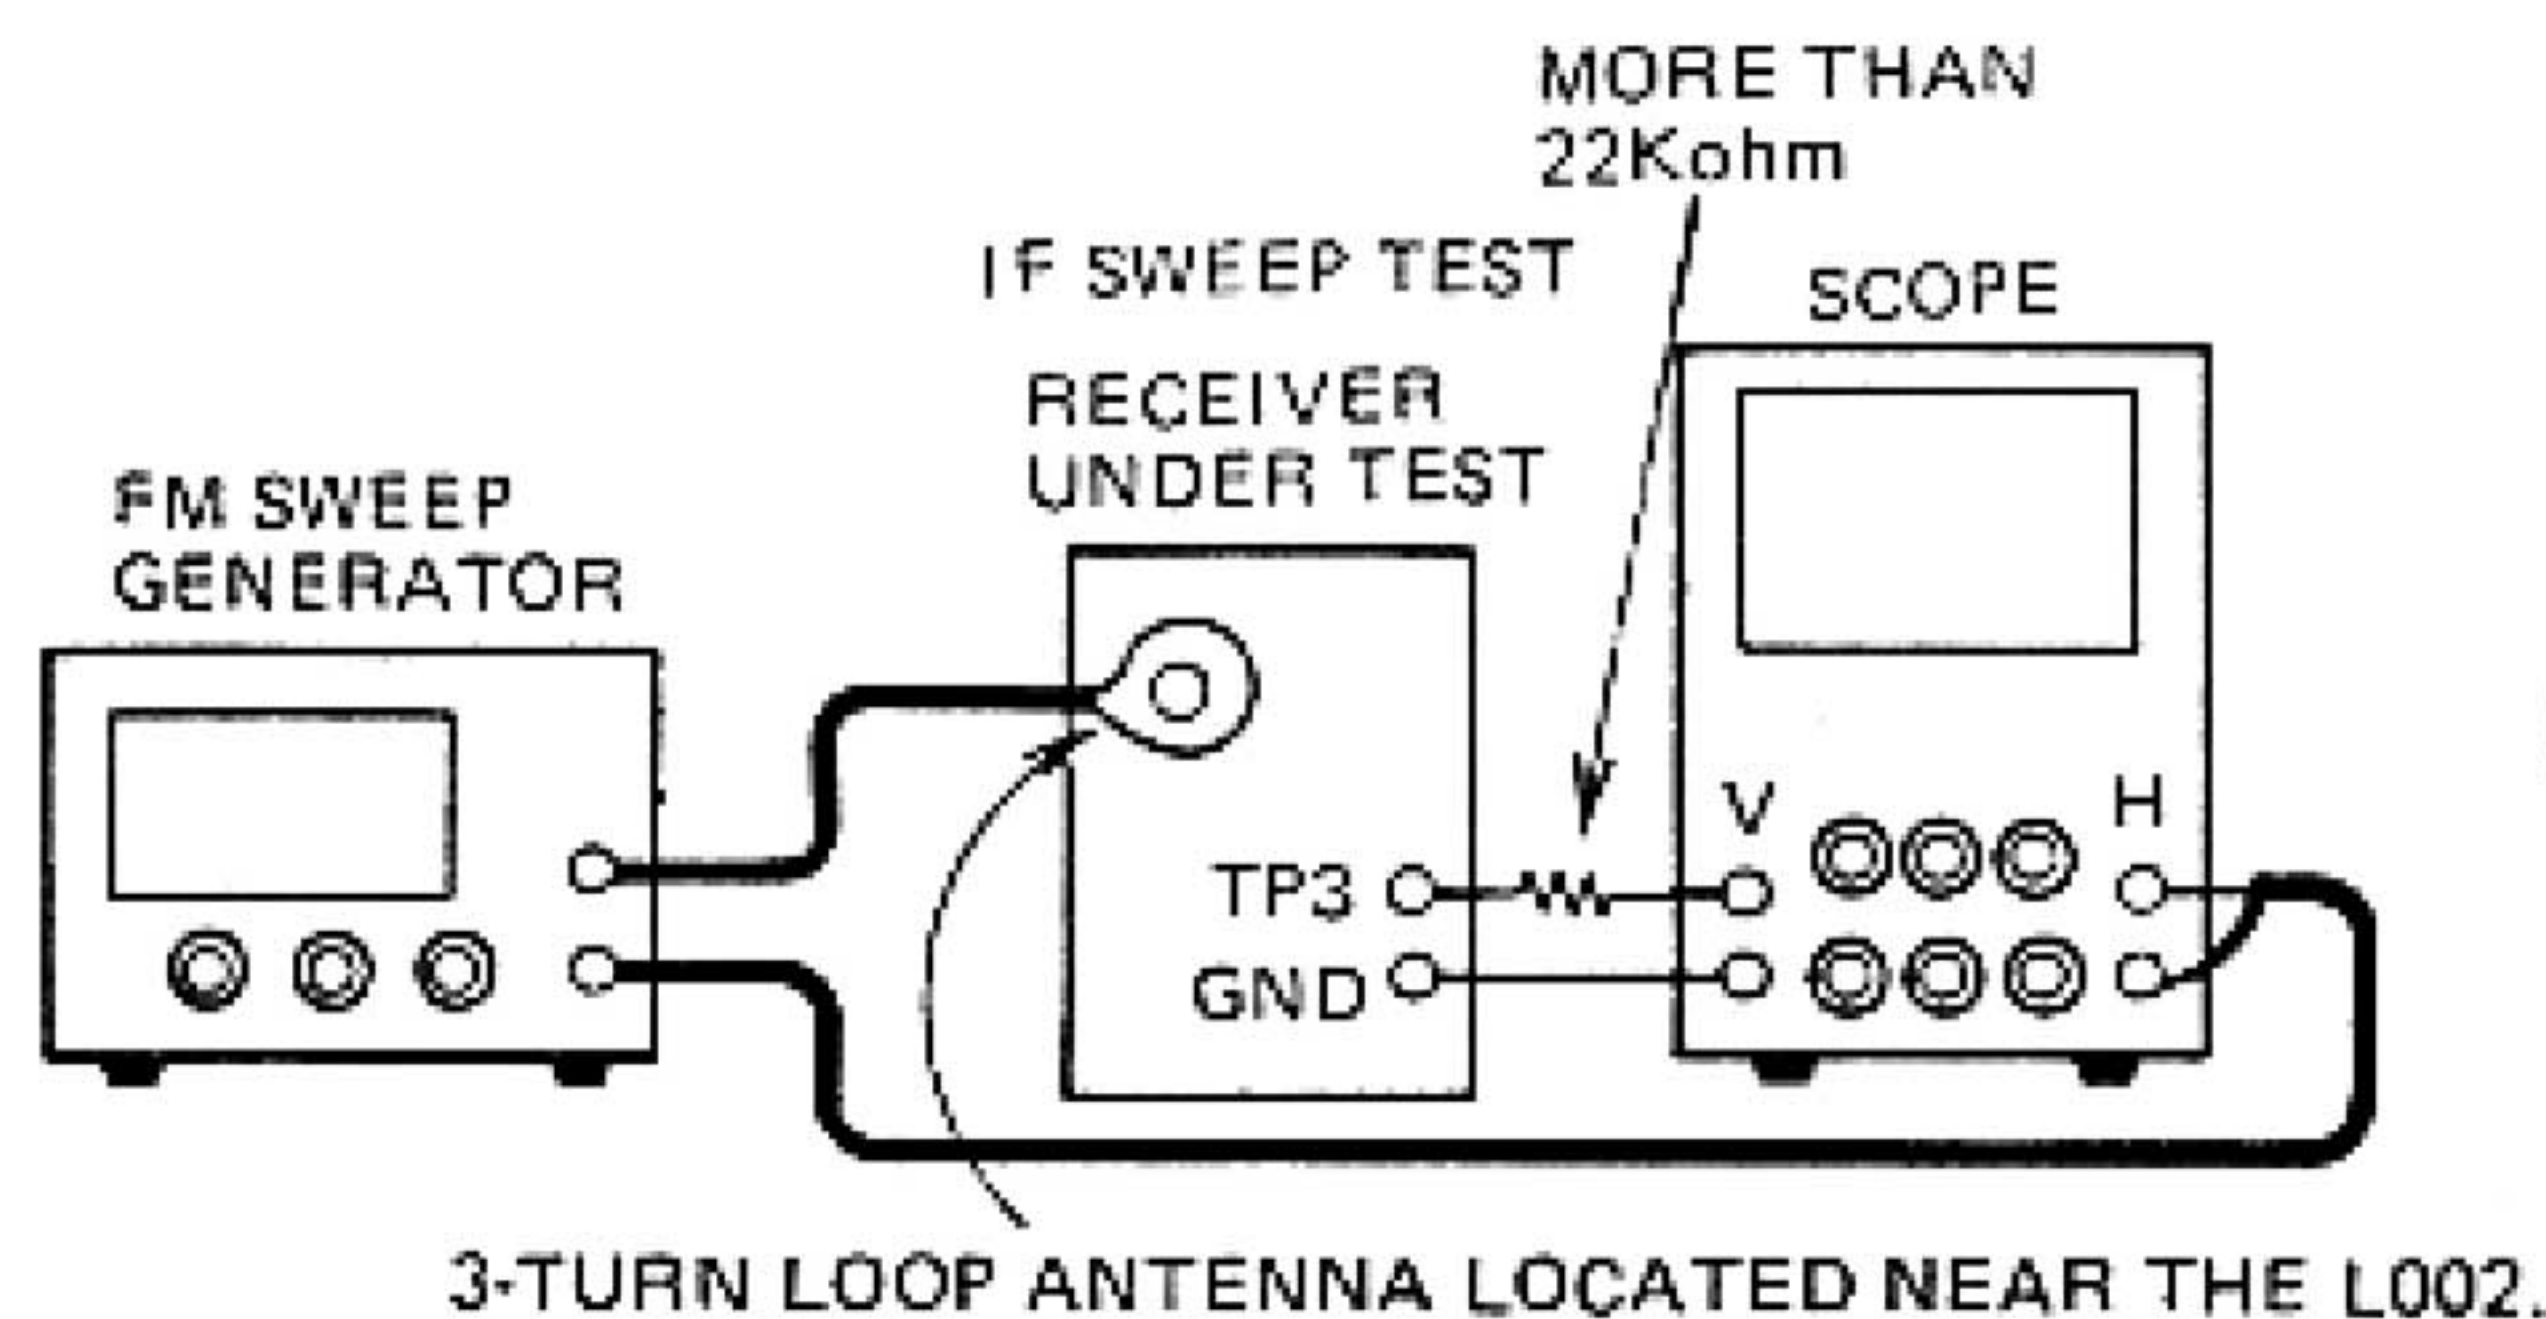

Figure 11
3. Connect the RF SWEEP SIGNAL OUTPUT of the sweep generator through the loop antenna to the receiver. (Figure 11)